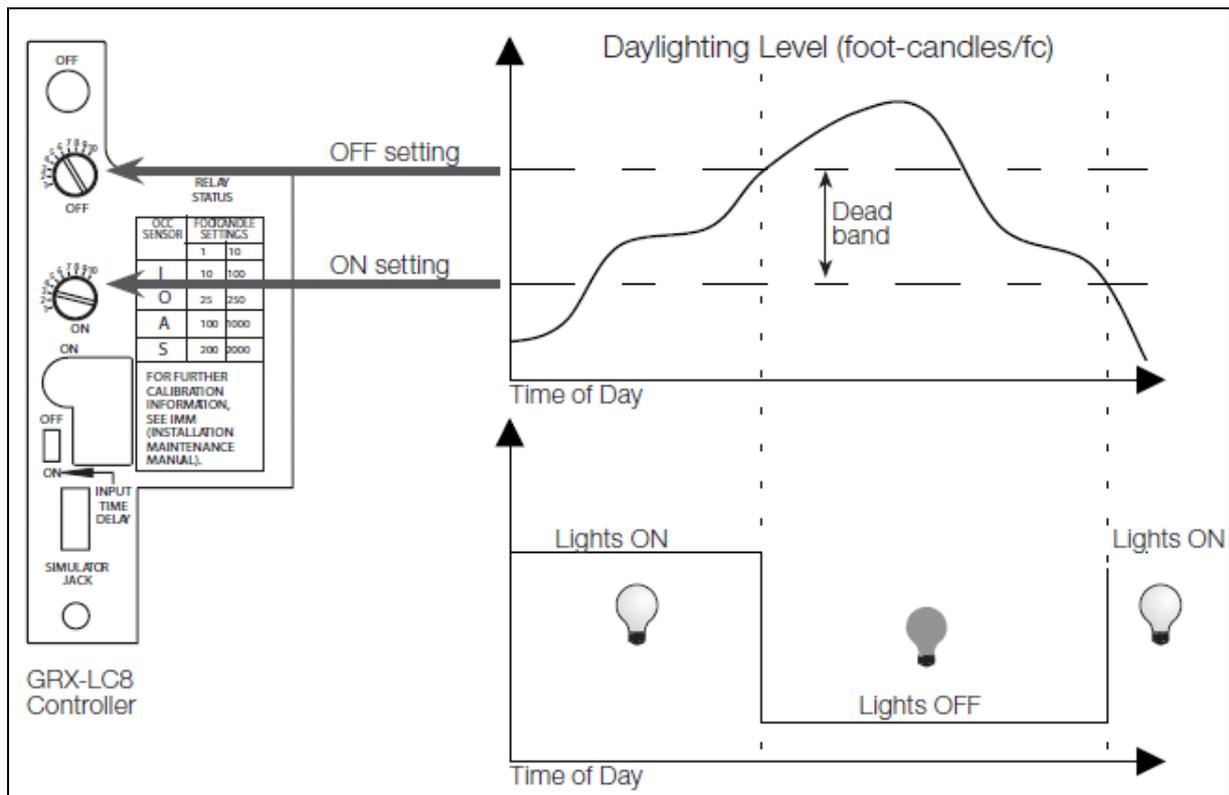

Figure 3
2. Using the chart in Figure 2, adjust the ON and OFF adjustment knobs to calibrate the GRX-LC8 controller to the desired trigger levels of the contact closure output. For proper operation, set the ON knob at least 1 tick mark setting below the OFF knob to create a dead band. See Figure 3 as well as examples below.